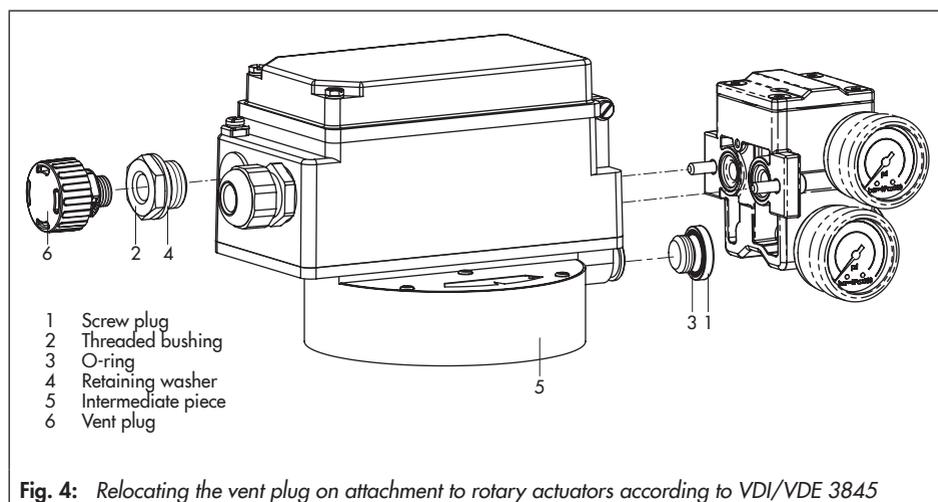

Fig. 4: Relocating the vent plug on attachment to rotary actuators according to VDI/VDE 3845
➔ For the attachment of the reversing amplifier to the above listed devices with mounting kit 1400-8815, remove the vent plug (6) from the intermediate piece (5) and insert into the positioner (see Fig. 4):
1. Place the O-ring (3) onto the screw plug (1).
2. Screw the screw plug (1) into the vent opening of the intermediate piece (5).
3. Thread the threaded bushing (2) and retaining washer (4) into the free cable gland of the positioner.
4. Screw vent plug (6) into the threaded bushing (2).